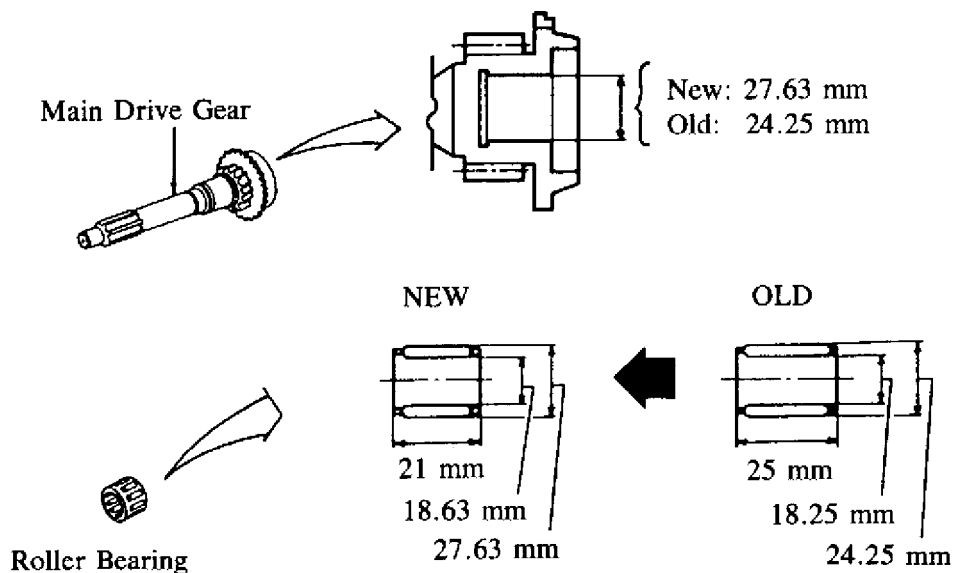

Fig. 1: Modified Main Shaft & Roller Bearing
1. The roller bearing has been enlarged and the recess in the main drive gear has been enlarged to accept the new roller bearing. See Fig. 1.